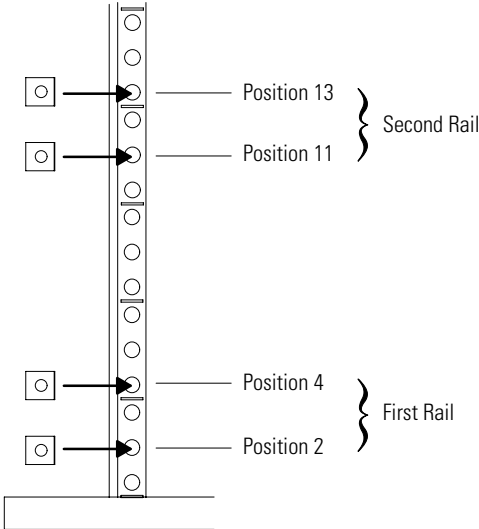
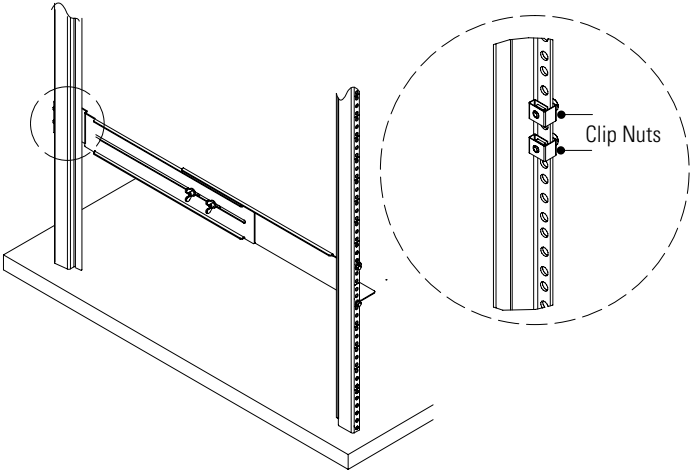

Figure 4. Rear Rail Screw Positions for the EBM
Figure 5. Securing the Rear Rail
- 4. Using two clip nuts and two hex-head screws, attach the rail to the rear of the rack (see Figure 4 and Figure 5).